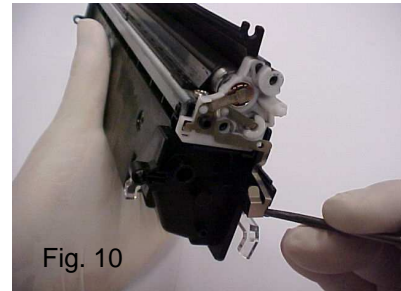

Fig. 10
12. Make sure to unsnap the contact that extends off of the end cap in the previous step (Fig. 10).